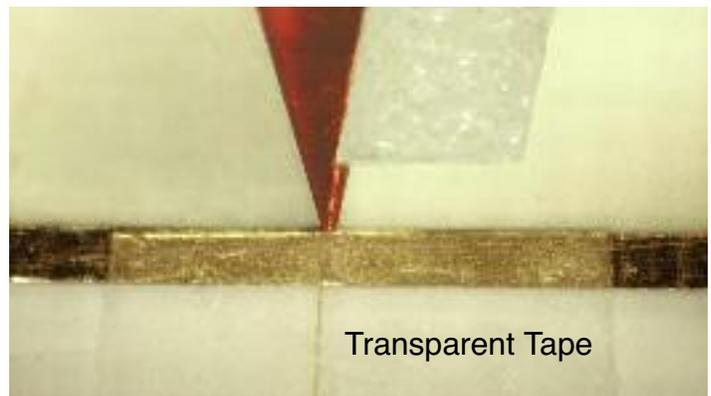

Figure 11: Securing the coil lead with clear tape
- With the board vertically positioned, centralize the coil on the marked foam surface. Position the coil's pointed end lead across the printed line at the scribed location of step 2. Temporarily secure this lead to the printed line and dielectric surface with transparent tape as shown in **Figure 11**.